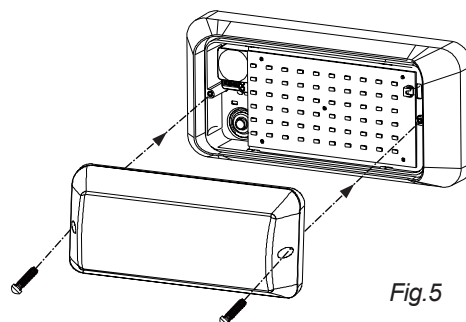

Fig.5
- Step7 Fasten the cover to the lamp base which has been installed on the wall.(as Fig.5)